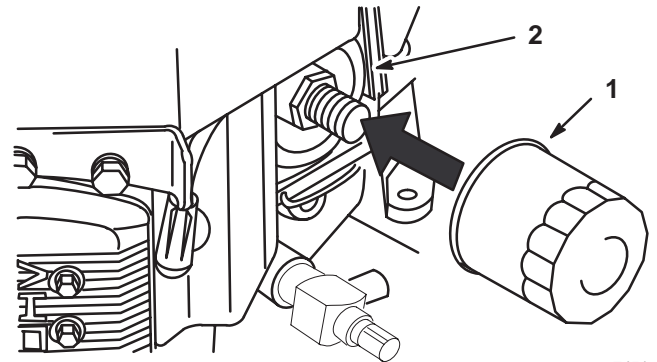

Figure 38
2. Remove the old filter (Fig. 38).
3. Apply a thin coat of new oil to the rubber gasket on the replacement filter (Fig. 38).
4. Install the replacement oil filter to the filter adapter, turn the oil filter clockwise until the rubber gasket contacts the filter adapter, then tighten the filter an additional 3/4 turn (Fig. 38).